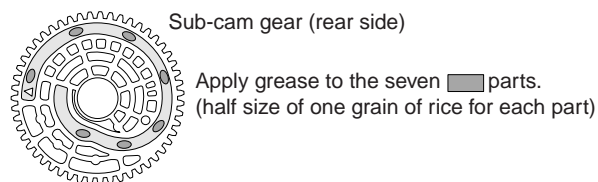

Fig. 6
- ③ Apply grease to the groove at the rear of the sub-cam gear. (Fig. 6)